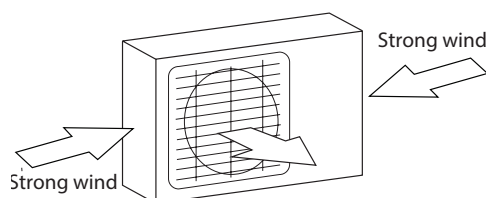

Fig. 5.1
- ✓ If the location is exposed to strong winds (for example: near a seaside), the unit must be placed against the wall to shelter it from the wind. If necessary, use an awning. (See Fig. 5.1 & 5.2)